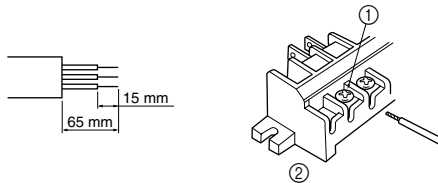

Fig. 7-4
- ③ Indoor
- ④ Outdoor
- ⑤ Always install an earth longer than other cables
- ⑥ Remote controller cable
- ⑦ Remote controller
• Connect the terminal blocks as shown in the diagram below. (Fig. 7-4)
- ① Loosen terminal screw
- ② Terminal bed
(1) Use care not to make mis-wiring.
(2) Firmly tighten the terminal screws to prevent them from loosening.
(3) After tightening, pull the wires lightly to confirm that they do not move.